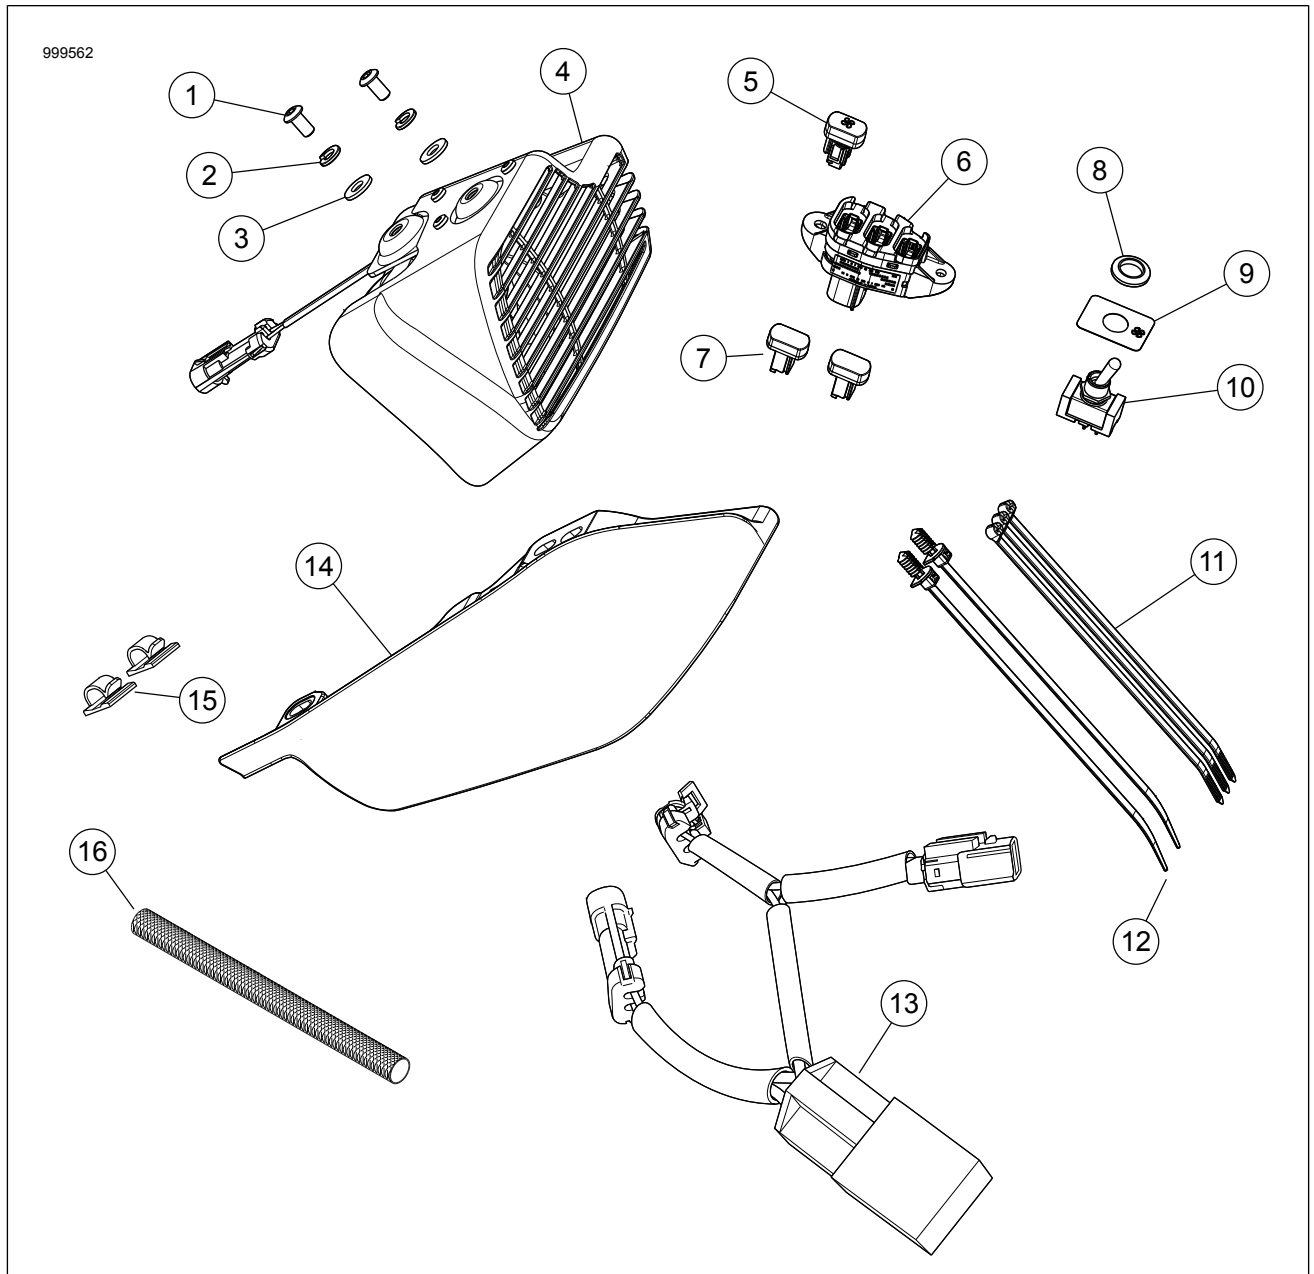

Figure 7. Service Parts: Fan Kit
See Figure 7 and Table 1.
1. See Figure 7. If previously equipped, install new mid-frame deflector (13).
5. See Figure 7. Install fan switch.